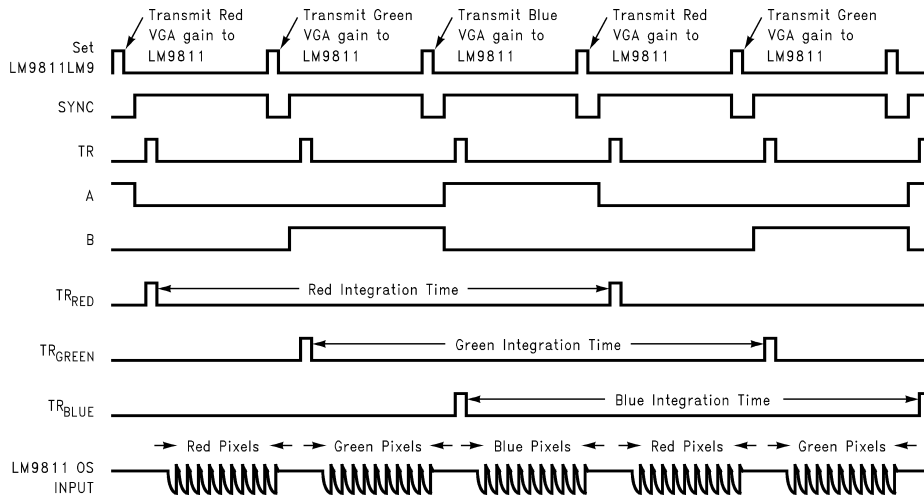

FIGURE 32. Parallel Output CCD Timing
To maximize the integration time for the Red, Green, and Blue photodiodes, the transfer (TR) pulses should be staggered as shown in *Figure 32*. This is done by a demultiplexer (Mux 2) between the TR output of the LM9811 and the transfer gate inputs of the CCD. If the CCD's transfer gate input capacitance is relatively low (see the CCD datasheet for this specification and the requirements for TR pulse rise and fall time), then the other half of the 74HC4052 may be used to multiplex the TR output and should be replaced with an active demultiplexer such as the 74HC155 dual 2-to-4 demultiplexer.